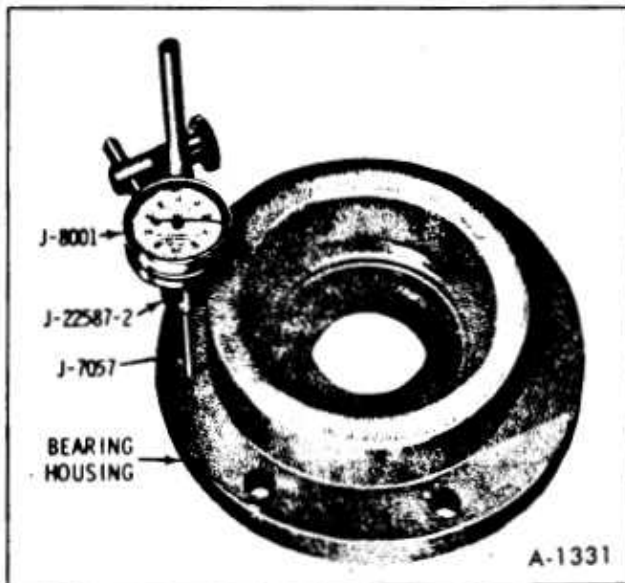

Figure 43—Checking Outer Flange Of Housing
5. Carefully lift dial indicator assembly over flange of bearing housing and position assembly as shown in Figure 43. With the three contact studs held firmly against shoulder of bearing housing, rear the dial indicator deflection. **RECORD THIS DEFLECTION.**